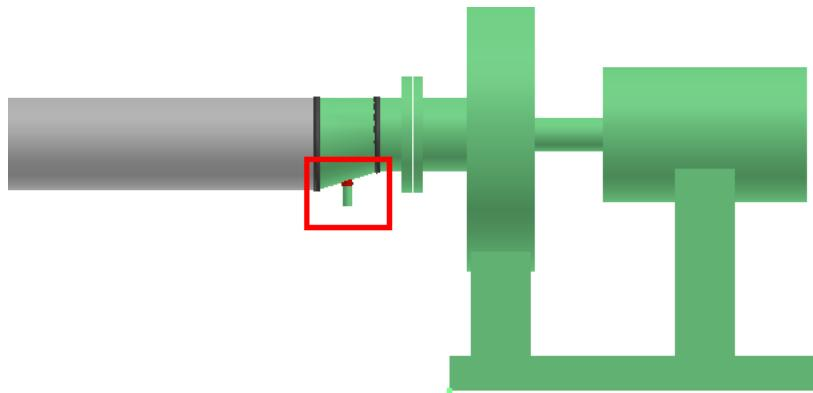

Figure 24: Nipple Placed on the Tap
10. Click the **Finish** button on the **Insert Component** ribbon to accept the placement of the nipple starting from the end point of the tap. After placing the nipple the view of the model should resemble the highlighted portion of Figure 24.